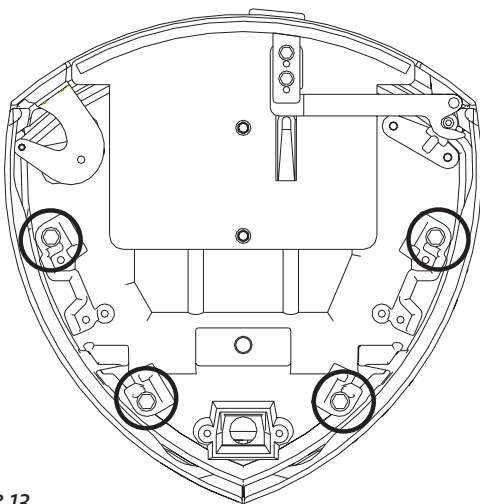

Figure 13.
2. Use a 13 mm wrench to remove the four, M8 x 25 mm bolts from the bottom of the firebox as shown in fig. 13.